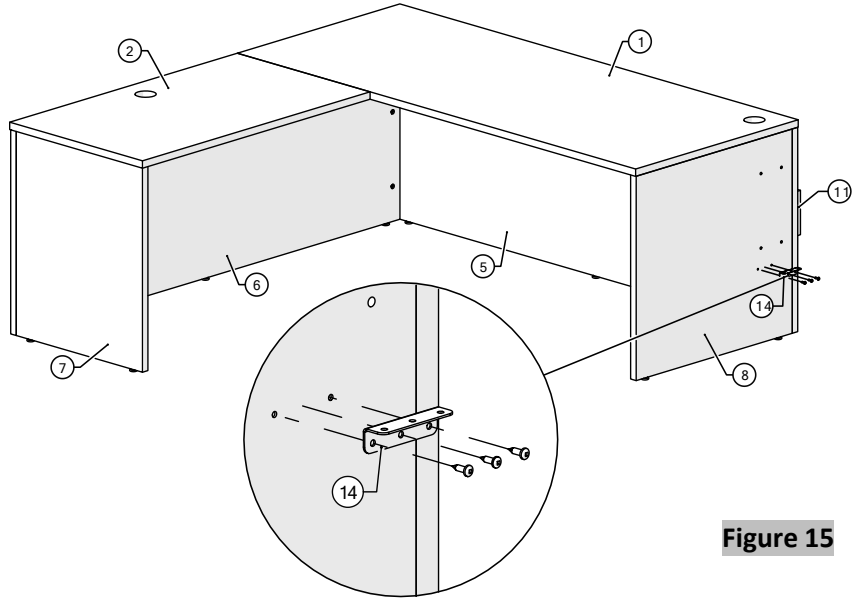

Figure 15
18. Attached the 90-degree connector to gable RH using #10 x 11/16" Pan Head Screws (Figure 15).